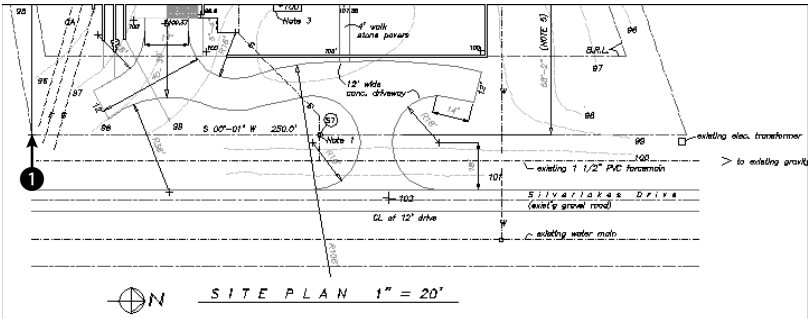

Figure 16-34: The completed multiline.
- 4. At the Specify next point: prompt, move the cursor to the right and type 255' ↵. If you want, you can experiment by drawing other line segments. Press Enter to end the command. The drawing should look like Figure 16-34.